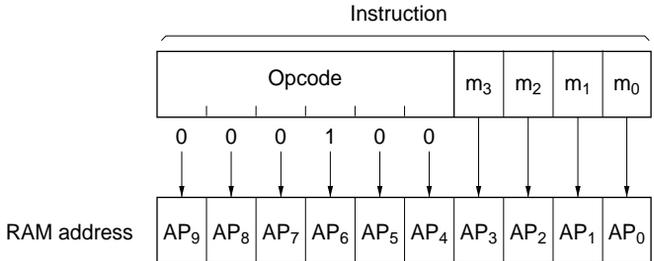

Figure 3-2 RAM Addressing Modes
The HMCS400 CPU supports the three RAM addressing modes shown in figure 3-2.
- (1) **Register Indirect Addressing Mode:** Register indirect addressing mode instructions consist of one word, and use the W, X, and Y registers to form a 10-bit RAM address. (See figure 3-2 (1).)
- (2) **Direct Addressing Mode:** Direct addressing mode instructions consist of two words. The first word is the opcode and the second word specifies a 10-bit RAM address. (See figure 3-2 (2).)
- (3) **Memory Register Addressing Mode:** Memory register addressing mode instructions consist of one word, in which the upper 6 bits specify the opcode and the lower 4 bits specify one of the memory registers 0 to 15. (See figure 3-2 (3).)